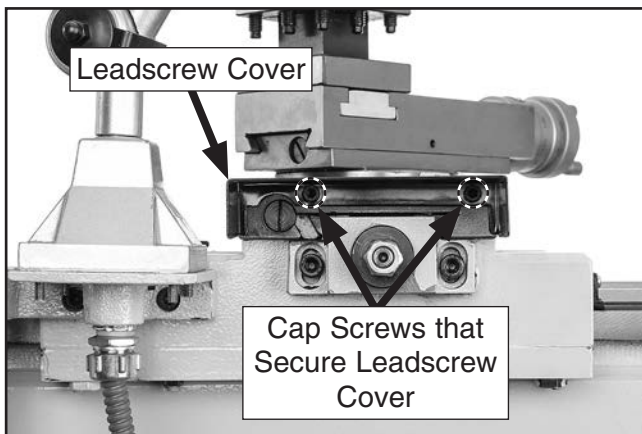

Figure 121. Back splash removed to access cross slide leadscrew cover.
2. Remove back splash, then remove cap screws and leadscrew cover to access leadscrew nut (see **Figure 121**).